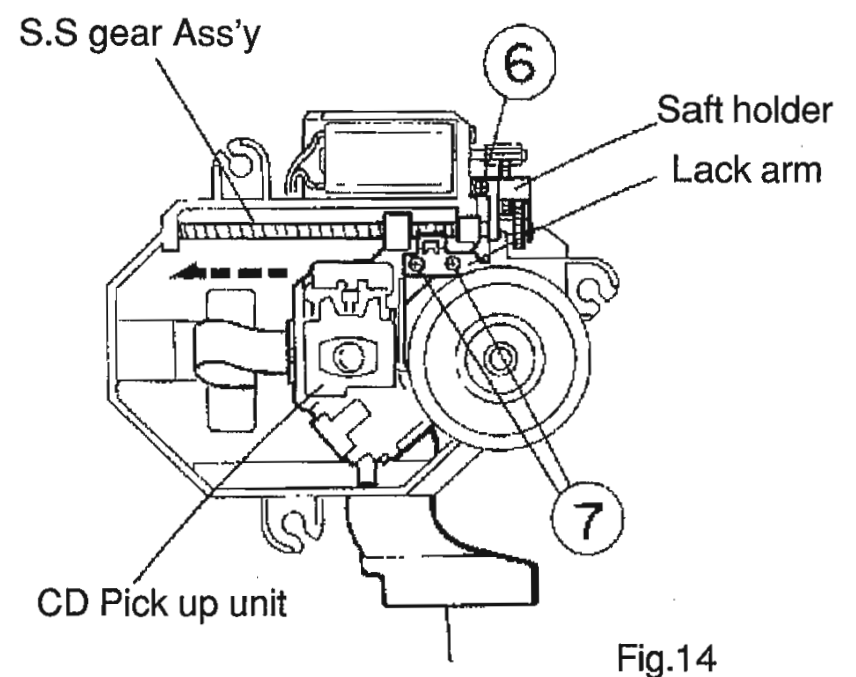

Fig.14
4. Shift the CD pickup unit in the arrow F direction (See Fig.14).
5. Remove the one screw ⑥ retaining the shaft holder (See Fig.14).
6. After removing the two screws ⑦ retaining the rack arm, take out the S.S. gear assembly (See Fig.14).